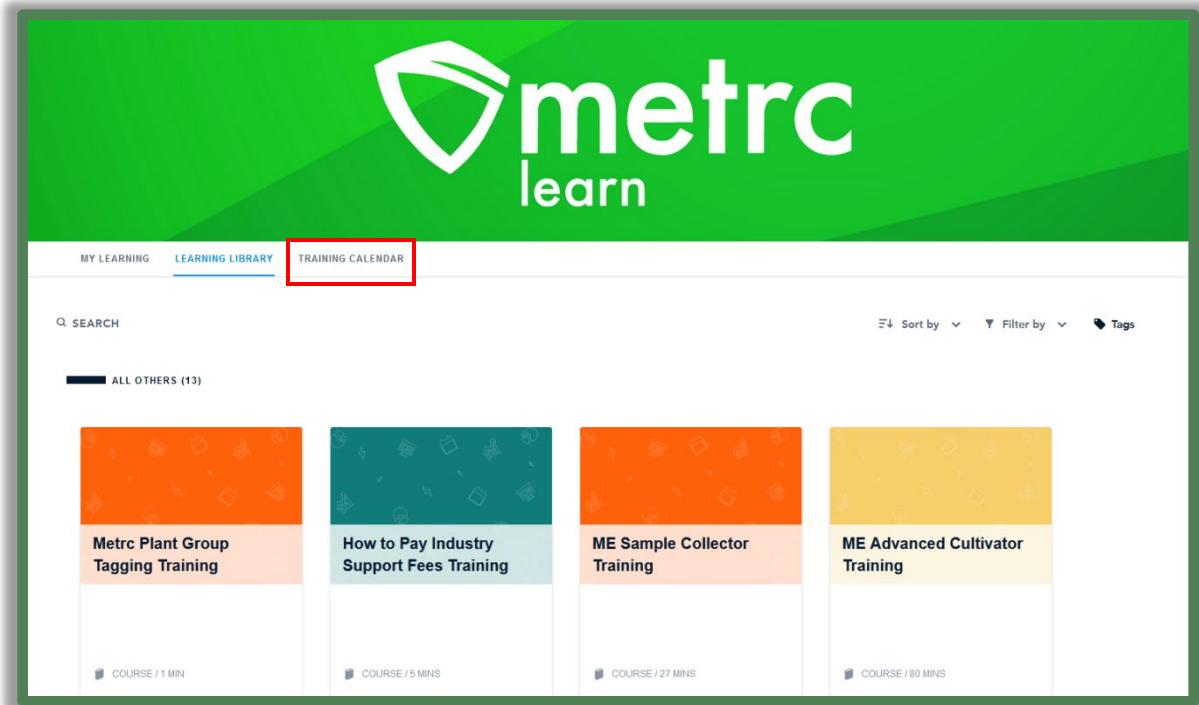

Figure 24: Access live training sessions in the Training Calendar
- Select “Register Now” for the preferred ME live training – see **Figures 24 and 25**